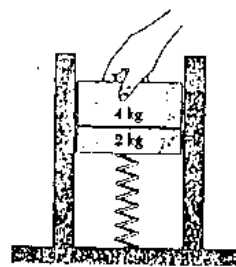

Figure 3
(3) A 2-kg block is at rest on a spring of constant 400 N/m. A 4-kg block is held above the 2-kg block so that it just touches it, and released. Determine (a) the maximum velocity attained by the blocks, (b) the maximum force exerted on the blocks (Figure 3). (20%)